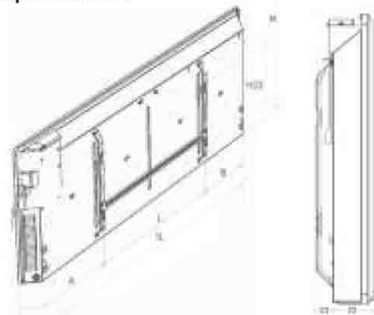

Fig. 1
Overall dimensions of the convector TEC.PF2 EL series as per Fig.1 are given in Table 2.
Overall dimensions of the convector TEC.PS1 EL series as per Fig.1 are given in Table 3.
3. In accordance with Fig. 1, 4 and table 2, 3 determine the place of convector's installation observing minimum distances from objects and minimum distance from the floor.